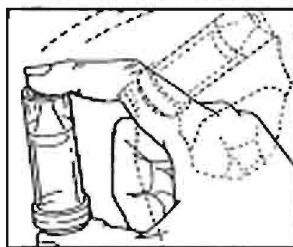
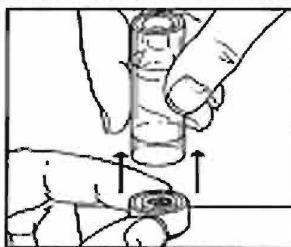
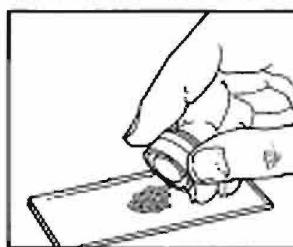

Figure 25. Mixing Stain and Sediment.
Figure 26. Removing Cap and Stained Sediment.
Figure 27. Depositing Sediment on Standard Micro Slide.
f. **FOR DEPOSITING SEDIMENT ON STANDARD MICRO SLIDES.** Decant supernatant and stain sediment as described in Steps (a) and (b) above. Recap and shake by placing thumb on cap and index finger on bottom of the tube (Figure 25). **ALWAYS END WITH THE TUBE HELD UPSIDE DOWN** so that the sediment is collected in the cap. Remove tube from cap (Figure 26), and tap the cap gently against the slide until sufficient material has been deposited (Figure 27). Enough material should remain in the cap to allow the preparation of several microscope slides in this manner, if desired. The use of a cover slip is not essential when specimens are examined on standard micro slides.